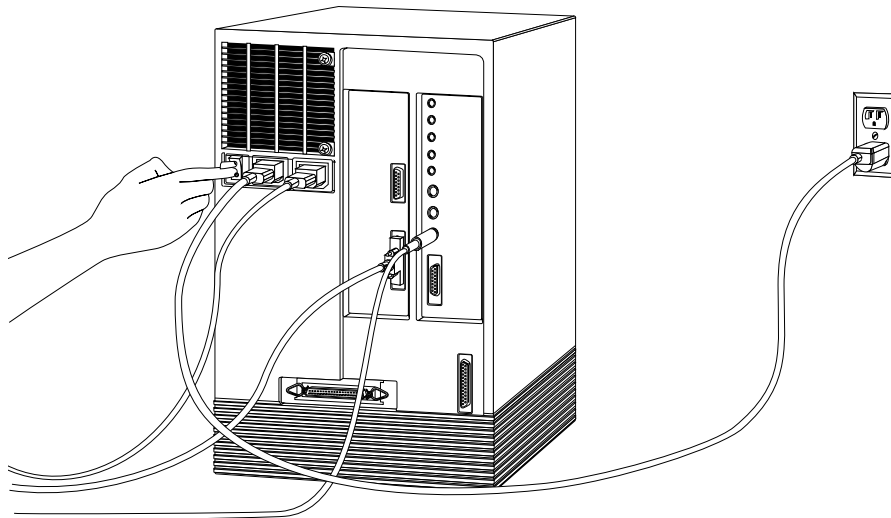

Figure 4-1 Turning Off the Power Switch
- Turn off the power switch on the back of the Indigo chassis, as shown in Figure 4-1.